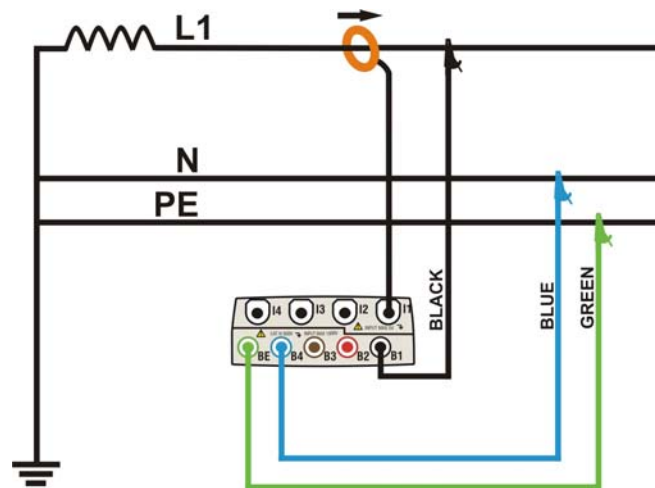

Fig. 185: Meter connection in a Single phase system
2. Connect voltage test leads on Phase, Neutral and Ground cables considering the colours as shown in Fig. 185).
3. Connect the transducer current clamp on L1 Phase cable as shown in Fig. 185) respecting the clamp's arrow direction indicating the current standard sequence from generator to load. **On Real Time Values' section screens always verify the positive value of Active Power and the power factor relative to load which should be normally inductive** before starting a recording. Reverse the clamp by 180 degrees on cables in case of negative readings.